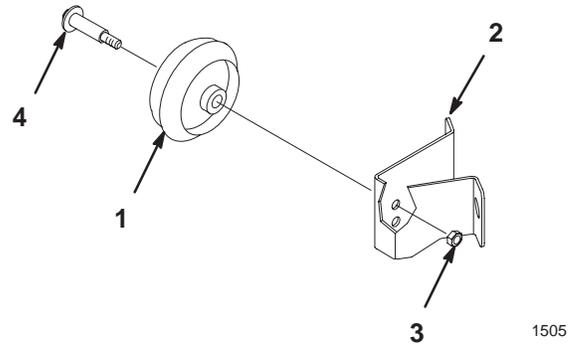

Figure 6
1. To change the height of the mower front wheels, remove the wheel mounting bolt and change the hole into which the wheel is mounted (Fig. 6).
2. Use the top hole for lowest cut height, and the bottom hole for higher cut heights (Fig. 6).